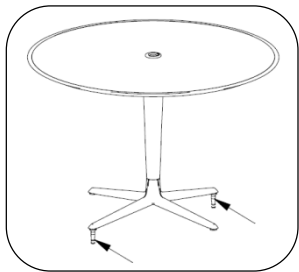

Fig. 1 – anchor locations
2. Mark two hole locations, at 180 degrees apart. See Fig. 1.